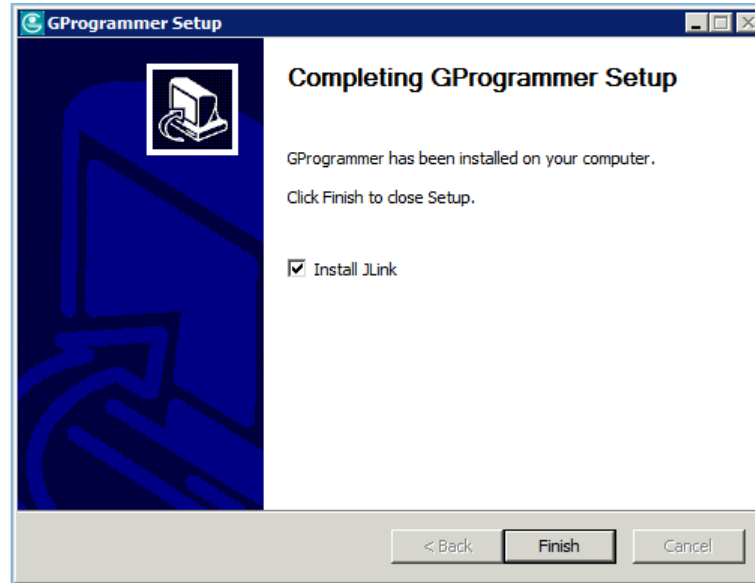

Figure 2-2 Prompt to install J-Link
- After installing GProgrammer, you are prompted to install J-Link on demand. See Figure 2-2.